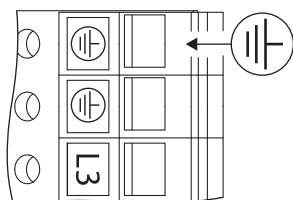

Fig. 21: Additional earthing
- Due to the increased discharge current in motors with more than 11 kW, it is also necessary to connect reinforced earthing acc. to EN 50178 (Fig. 21).